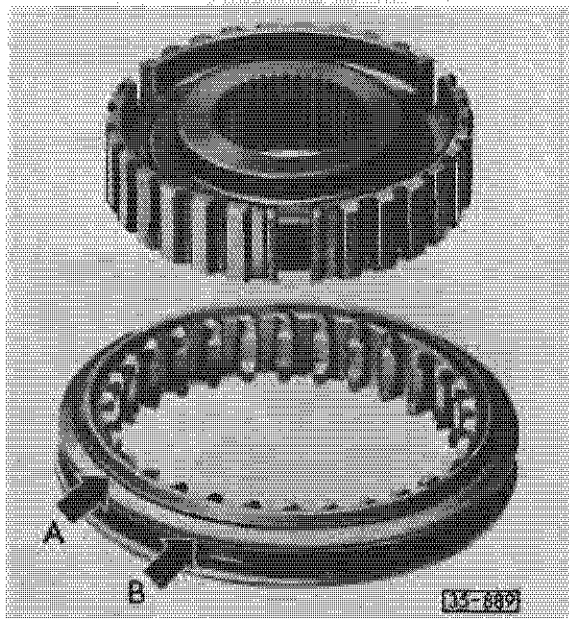

Fig. 10 Synchronizer 1st/2nd gear, assembling
- turn synchronizer ring until grooves are in line with keys (installation position, see Fig. 10)